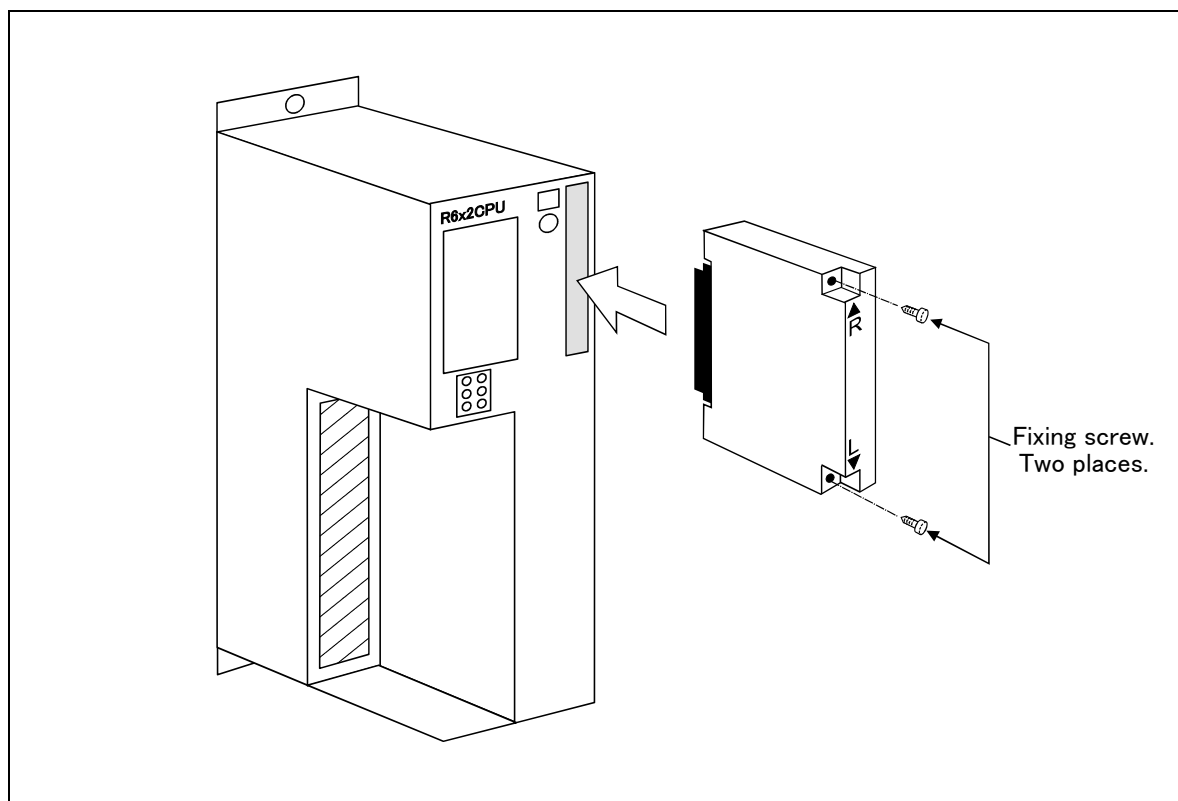

Fig.3-38 : Installation of extension memory cassette
- As shown in Fig. 3-38, insert the memory cassette all the way to the back with the "▲_R" facing up.